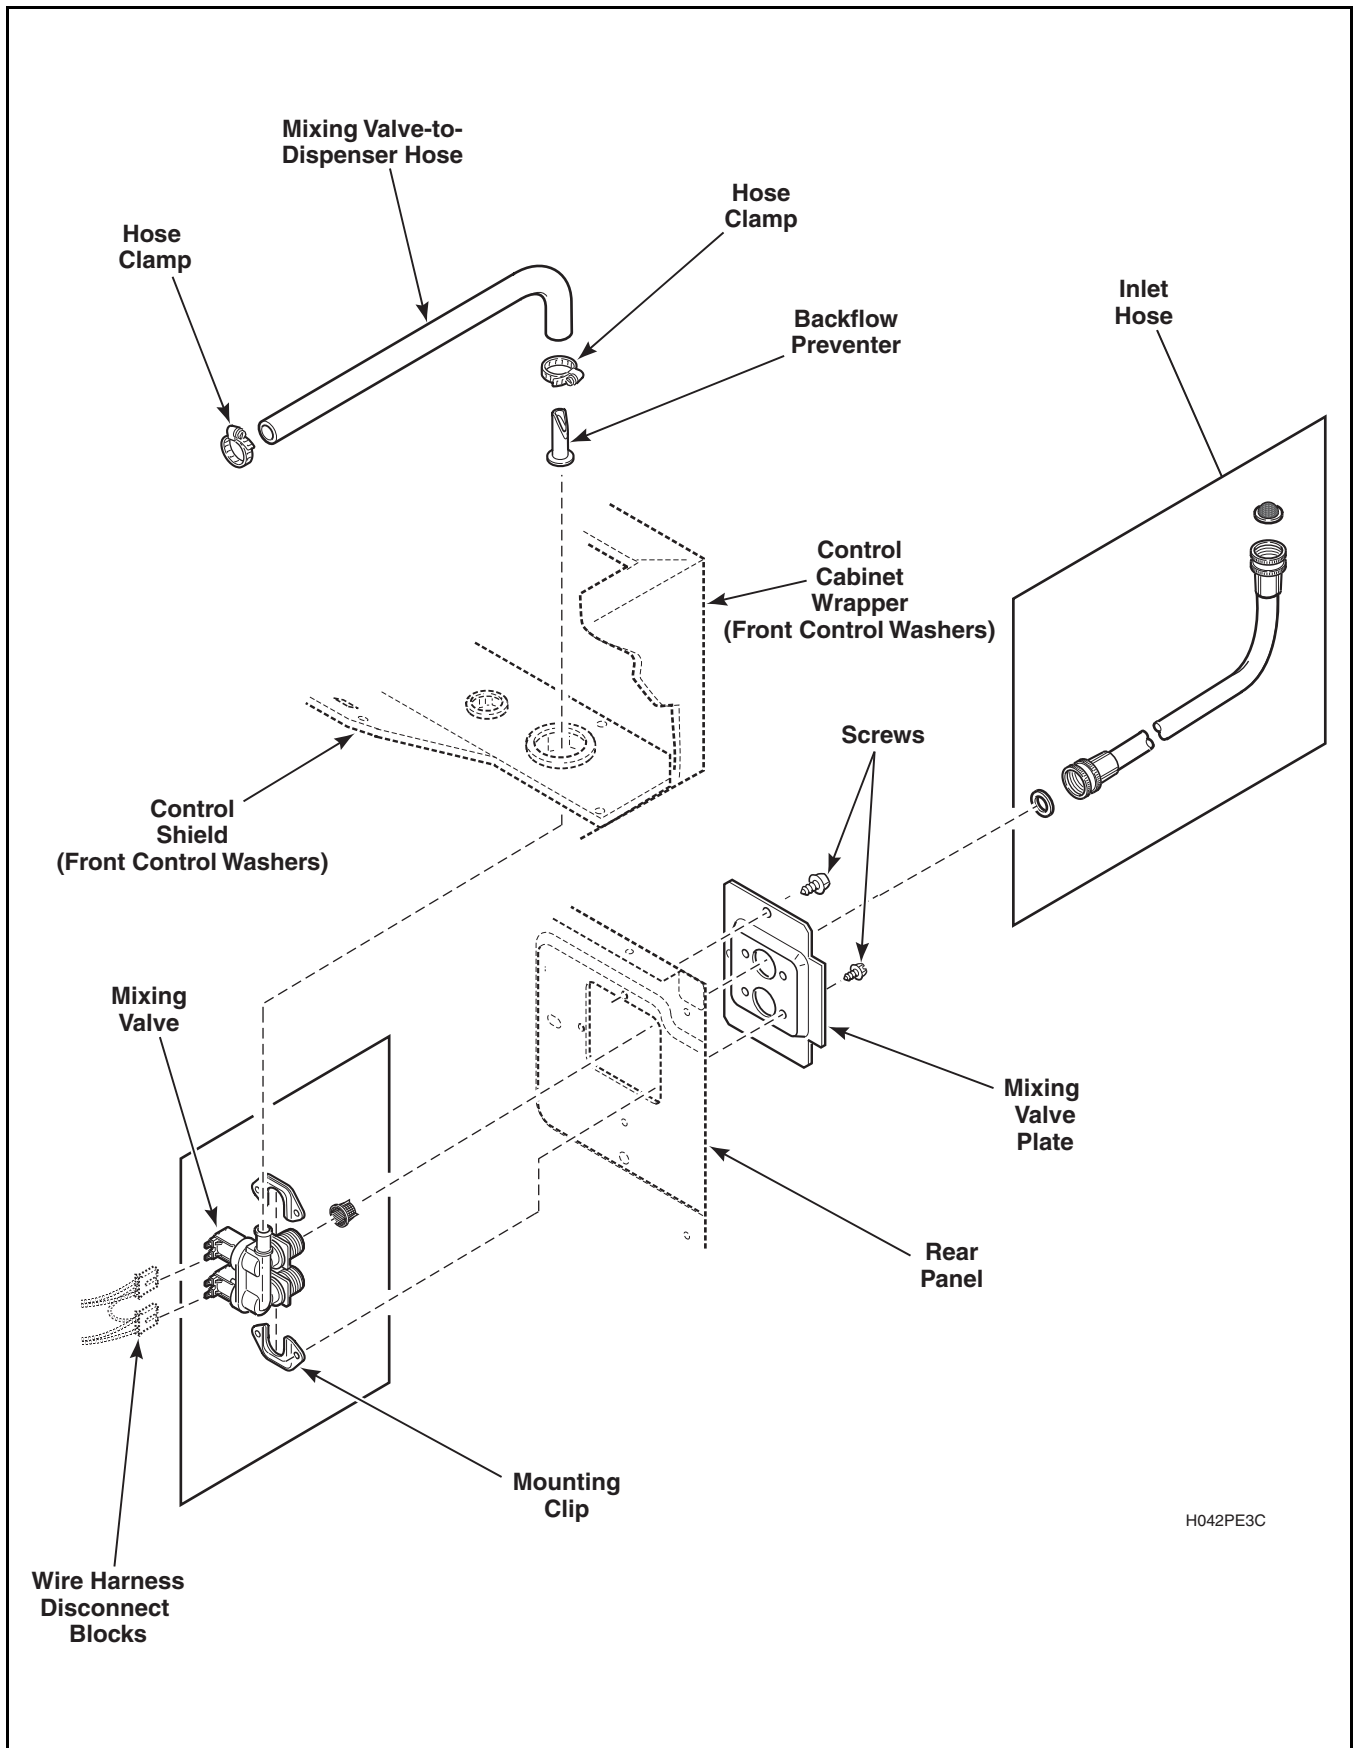

Figure 42
- c. Mixing valve is located on upper back right corner of rear panel. Refer to *Figure 42*.
- e. Loosen hose clamp and remove mixing valve-to-dispenser hose at the mixing valve. Refer to *Figure 42*.
- f. Remove wire harness disconnect blocks from mixing valve solenoid terminals. Refer to *Figure 42*.
- g. Go to rear of washer and remove screw holding mixing valve and plate to rear panel, then remove valve and plate out through opening in rear panel. Refer to *Figure 42*.
- h. Remove screws holding valve to mixing valve plate. Refer to *Figure 42*.